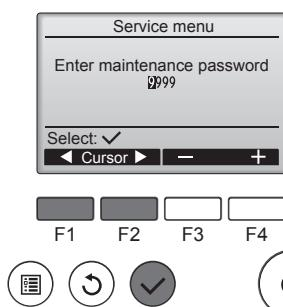

Fig. 6-2
- ① Select "Service" from the Main menu, and press the ② button.
- ② When the Service menu is selected, a window will appear asking for the password. (Fig. 6-2)